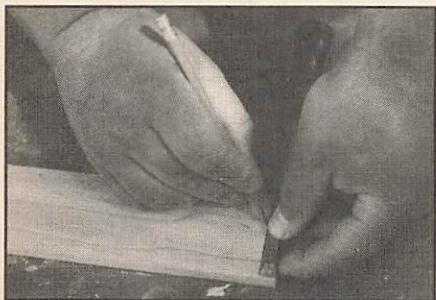

Fig. 1. Marking for depth of cut.
Now it's time to lay out and cut the box joints on parts (A), (B), and (C). Referring to **Figs. 1 and 2**, use a 3/8" chisel to lay out the joints as shown in Drawing No. 2 (start from the top of each part and work downward). **Note:** while the chisel we used is called a 3/8" chisel, it is actually wider—in the full size box-joint pattern shown in Drawing No. 2, we used the width of the chisel as the template for the cuts rather than the 3/8" dimension. Once the box joints have been laid out, use a backsaw to cut them as shown in **Fig. 3**. Referring to **Fig. 4**, use the 3/8" chisel to remove the waste between the "fingers." **Note:** when cutting box joints, it is always best to leave the fingers slightly over-size (in both length and width), since material can be filed down, but loose-fitting joints will need to be filled and are aesthetically less desirable.